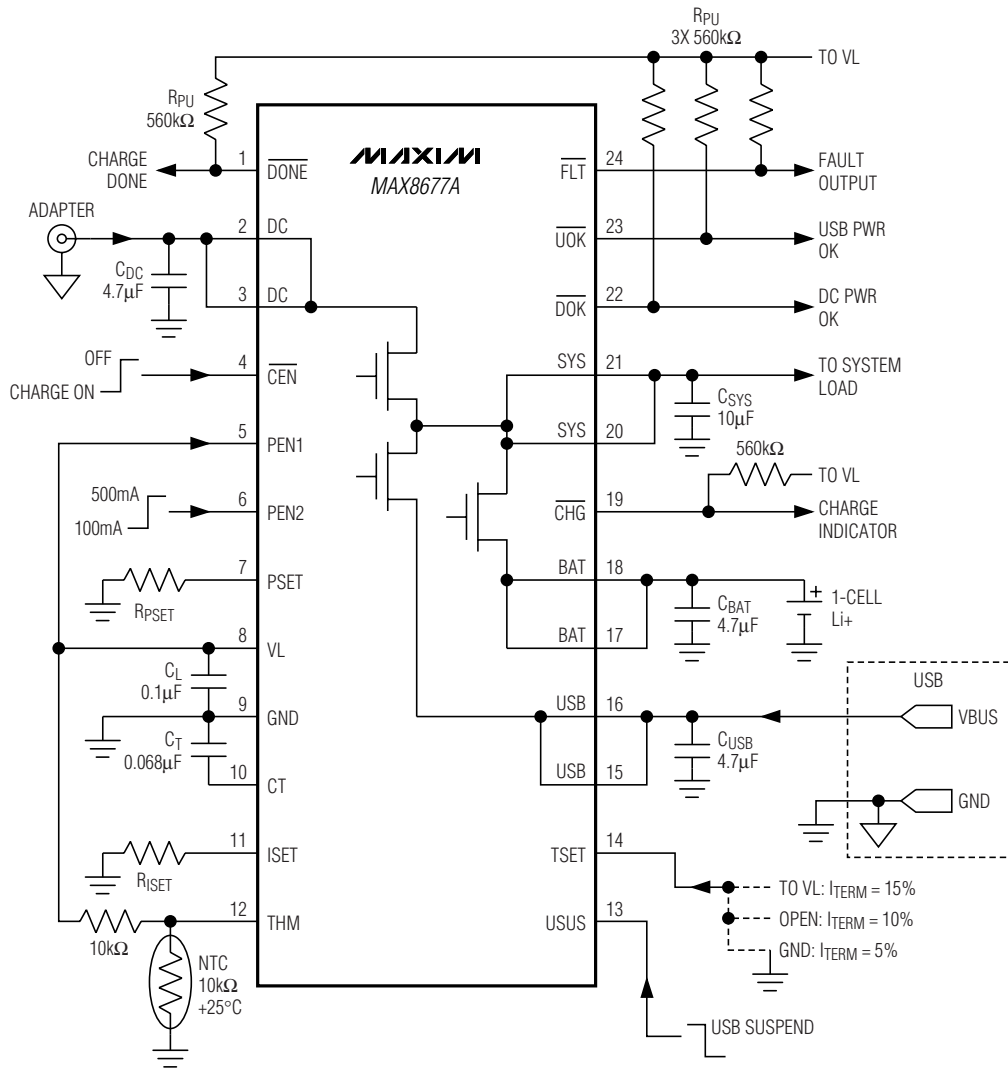

Figure 2. Typical Application Circuit Using Separate DC and USB Connectors
for two-input or single-input operation. Figure 2 is the typical application circuit using separate DC and USB connectors. Figure 3 is the typical application circuit using a Mini 5-style connector or other DC/USB common connector.
**Table 1. External Components List for Figures 2 and 3**